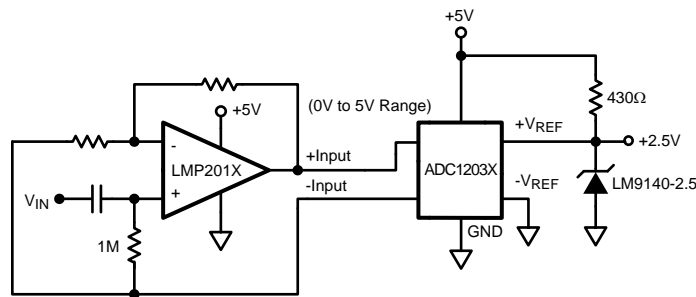
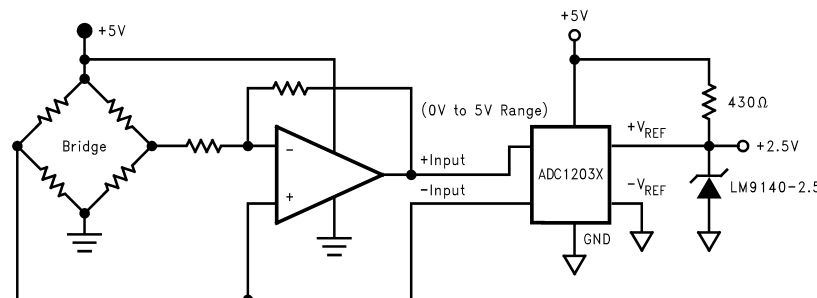

Figure 8.
Figure 9.
The LMP2012 is a great choice for an amplifier stage immediately before the input of an ADC (Analog-to-Digital Converter), whether AC or DC coupled. See Figure 8 and Figure 9. This is because of the following important characteristics:
- D) Rail-to-Rail output swing maximizes the ADC dynamic range in 5-Volt single-supply converter applications. Below are some typical block diagrams showing the LMP2012 used as an ADC amplifier (Figure 8 and Figure 9).